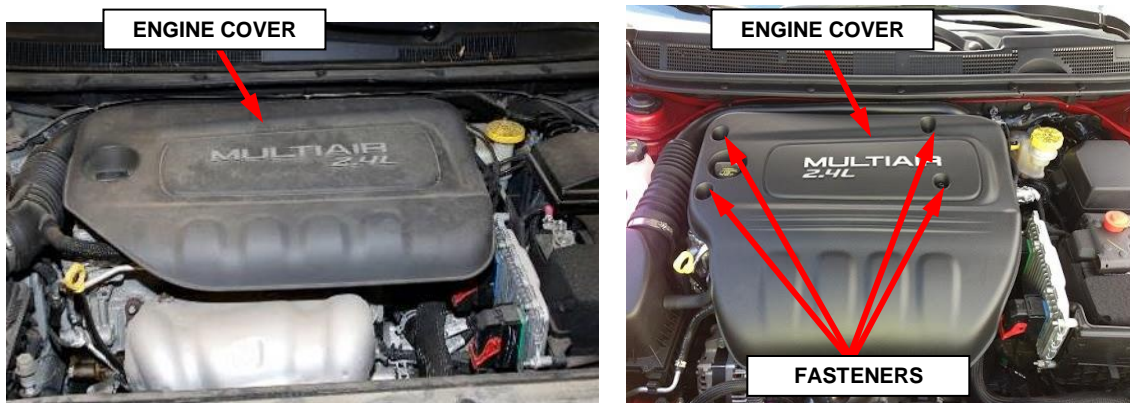

Figure 7 – Engine Cover
13. Release the engine cover from the ball studs if applicable or remove and **SAVE** the four fasteners if applicable, then remove and **SAVE** the engine cover (Figure 7).